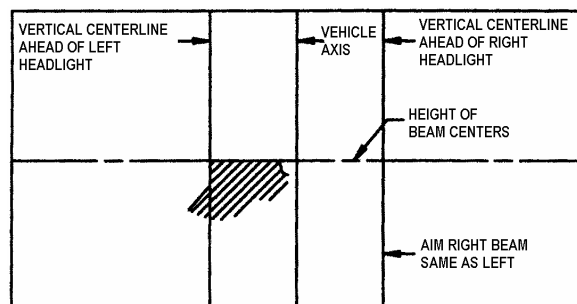

FIGURE 33: HIGH-INTENSITY ZONE (SHADED AREA) OF A PROPERLY AIMED LOWER BEAM ON THE AIMING SCREEN 7.6 M (25FT) IN FRONT OF VEHICLE
6. Low beam headlights are aimed so that the top edge (the cutoff) of the high-intensity zone is at the vertical location as per Table 1 and the left edge of the high-intensity zone is at the vertical centerline of the headlight (Fig. 33).